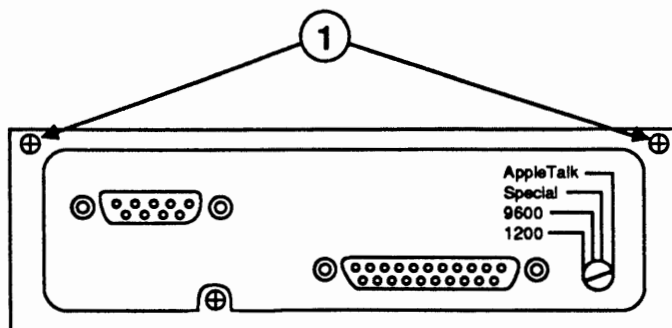

FIGURE 2-59
- b) Replace the two silver-colored mounting screws (Figure 2-59, #1) that connect the mounting connector plate to the printer chassis.